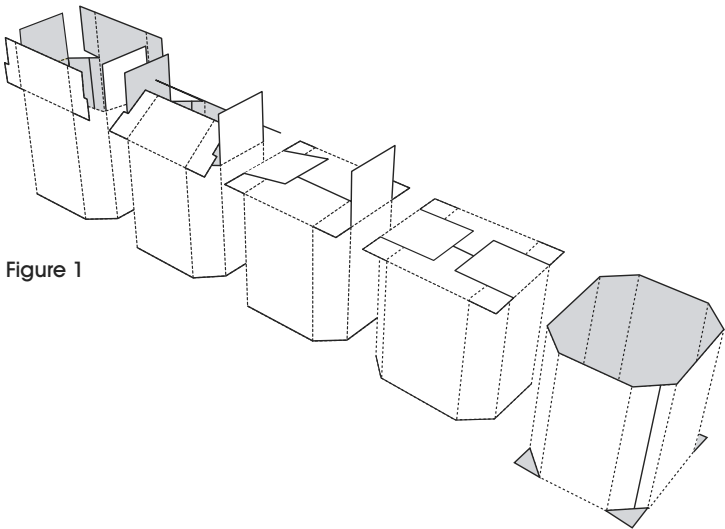

Figure 1
2. Stand the bin on end with the flaps on top. (See Figure 1)